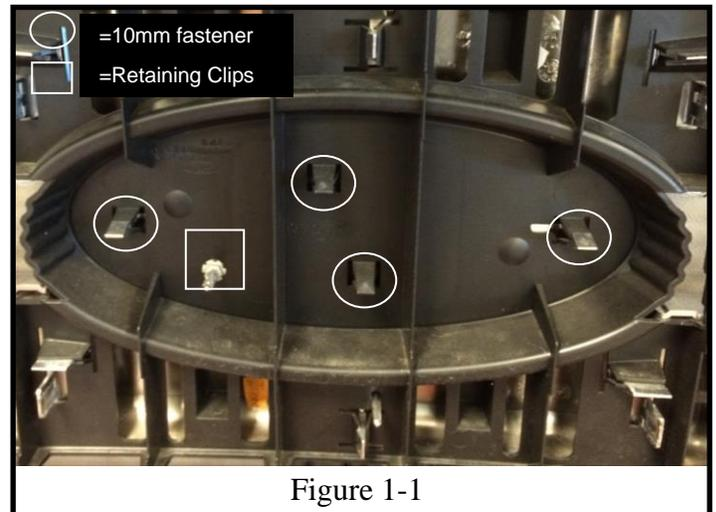

Figure 1-1
6. Remove the 10mm nut marked in figure 1.1
7. Gently pry on the tabs marked in figure 1.1 to release the factory emblem from the grille